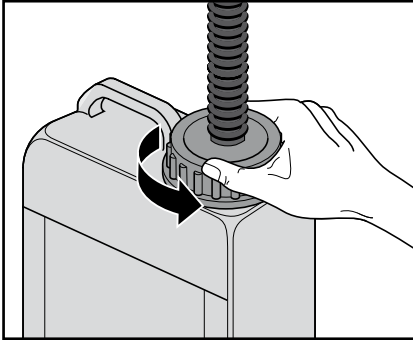

Fig. A1
- Unscrew the closure of the water tank (fig. A1).